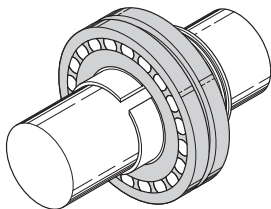

Fig. 20-8 Bearing.
4. Mount bearing on adapter sleeve, starting with the large bore of the inner ring to match the tape of the adapter. With the bearing hand tight on the adapter, locate the bearing to the proper position on the shaft. *Do not apply lockwasher at this time because the drive-up procedure may damage the locknut.* (Fig. 20-8)